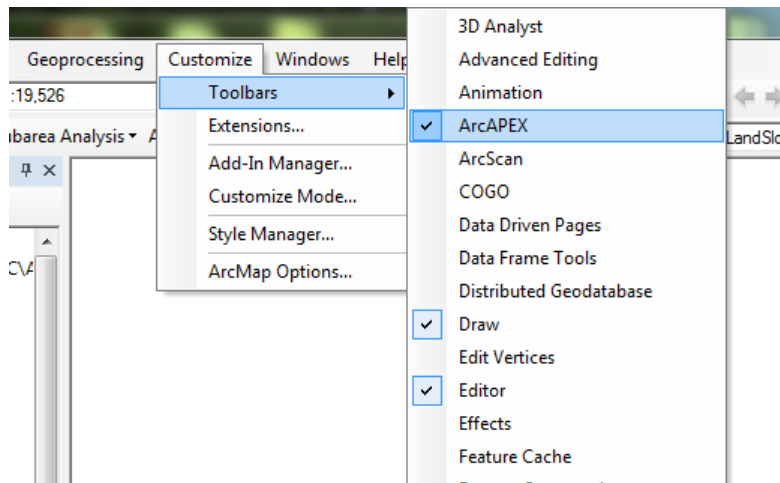

Figure 3.1 Turning on ArcAPEX toolbar in Toolbar customization.
2. If this is your first time using ArcAPEX: From the Customize menu, click **Toolbars** and select the **ArcAPEX Toolbar**. The ArcAPEX Toolbar will appear in your ArcMap window (Figure 3.1).